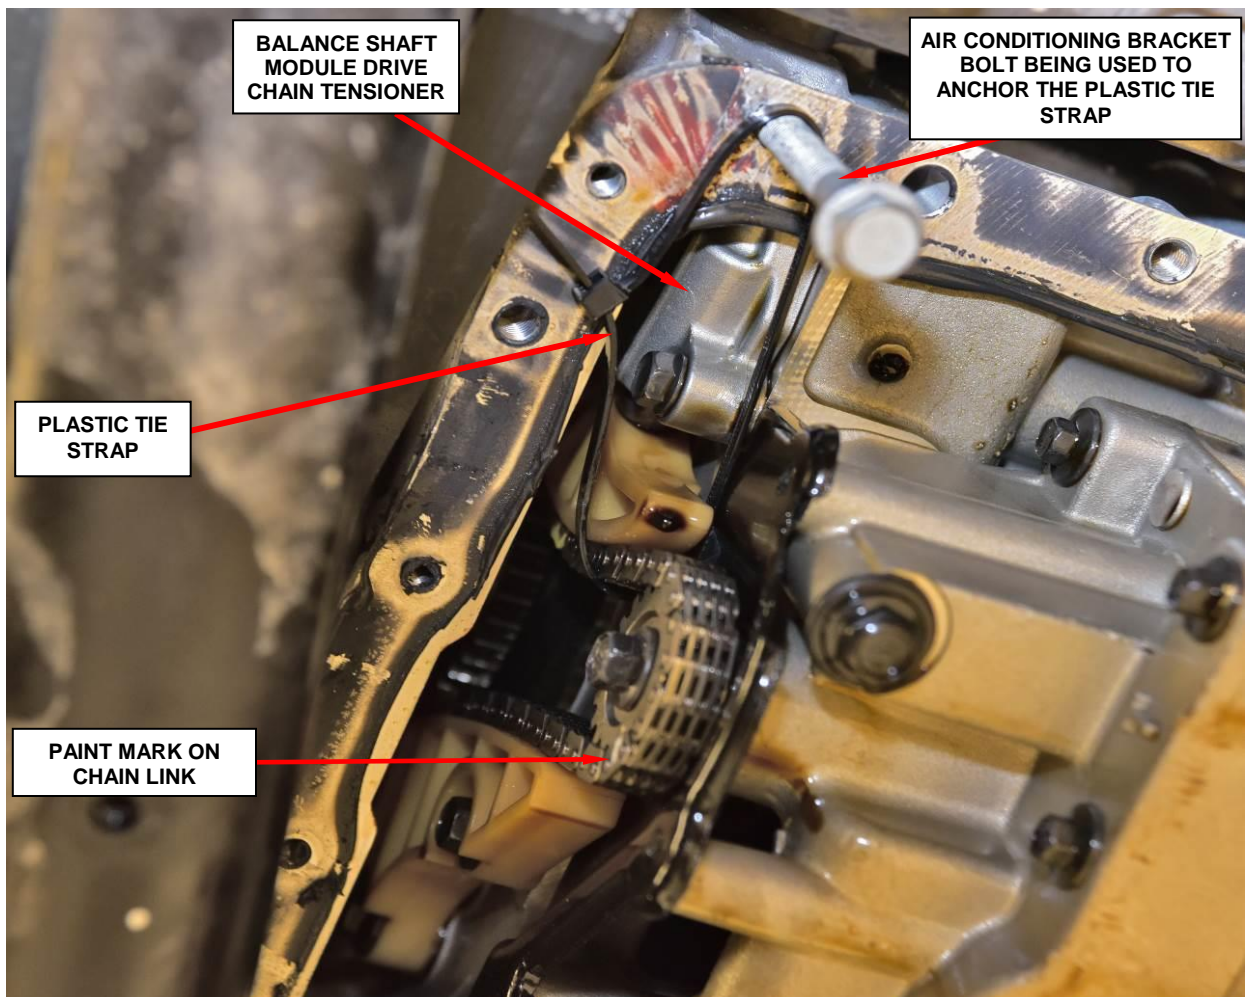

Figure 9 – Relive Balance Shaft Drive Chain Tension
3. Install one air-conditioning compressor bracket bolt into the right forward corner thread boss (Figure 9).
4. Apply a paint mark on the chain link that is aligned with the drive sprocket mark (Figure 9).
5. Position a plastic tie strap around the chain, tensioner and bolt that was previously installed (Figure 9).